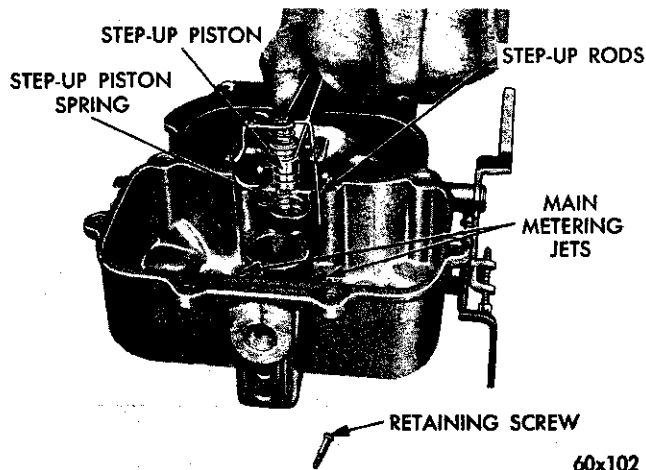

Fig. 2—Removing the Step-up Piston
(9) Remove the fuel inlet needle valve, seat and gasket from the main body.
(10) Lift out the float fulcrum pin retainer, and lift out the floats and fulcrum pin.
(11) Remove the step-up piston and retaining screw and slide the step-up piston and rods out of well, as shown in Figure 2. Lift out the step-up piston
(8) Slide the step-up piston gasket down into position in the piston well, then install the step-up piston springs, step-up piston and rods. Carefully guide the step-up rods into the main metering jets (Fig. 2). Install the retaining screw and tighten securely. Check piston for free operation in the well.